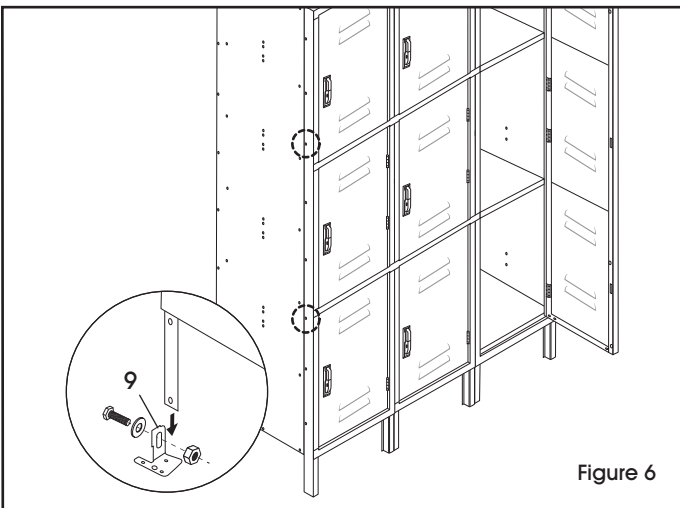

Figure 6
10. With two people, being careful not to put all the weight on the rear legs, stand unit upright and place in desired location. Check and tighten all permanent bolts. (See Figure 6)
1. If joining a 3-wide unit beside another unit, temporarily install a bolt and nut into the third and sixth holes down from the top of the outer frame(s) that will be joined to the adjacent locker frame(s). (See Figure 6)
2. Use supplied leveling feet and hardware (9) to level the unit. (See Figure 6)